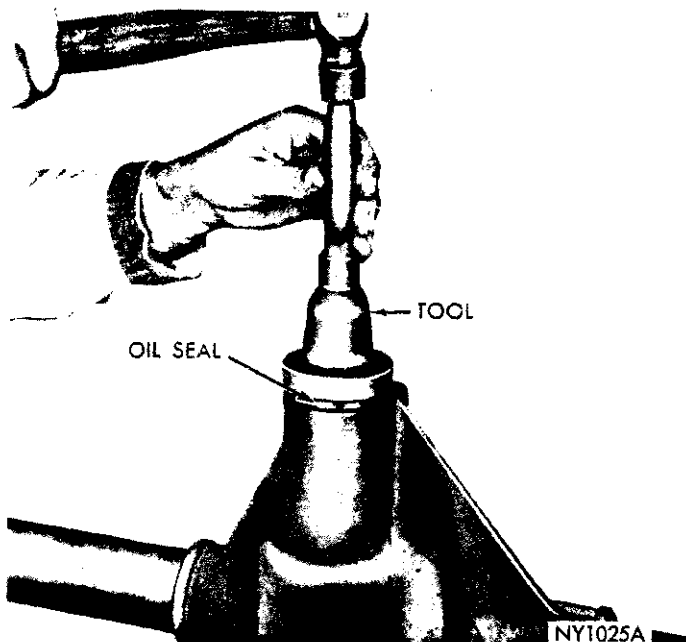

Fig. 20—Installing Pinion Oil Seal
(5) When front pinion bearing preload is correct, remove pinion nut, washer and flange.
(6) Apply a light coat of sealer in drive pinion oil seal bore of axle housing.
(7) Install drive pinion oil seal (lip toward pinion head) with Tool C-4002 (double lip synthetic rubber oil seal) or Tool C-3719 (single lip leather oil seal). The proper tool must be used in order to position the seal the proper depth into the housing (Fig. 20).